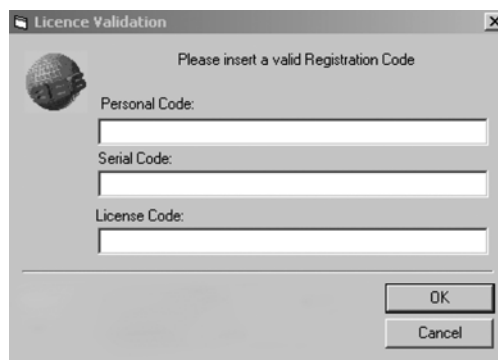

Figure 5-1. License Validation dialog box
8. When the license code is received, complete the dialog box shown in Figure 5-1.